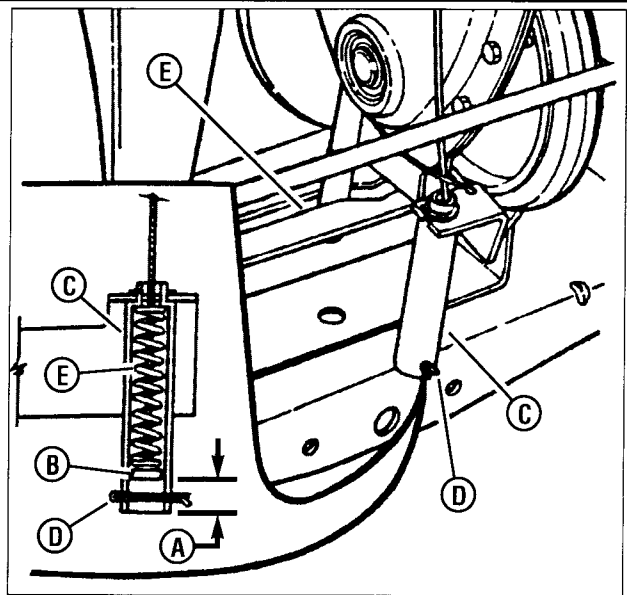

Figure 40: Adjusting the brake cable
5. Measure the distance (A, Figure 40) between the end of the clutch/brake cable (B) and the bottom of the housing (C). The measurement should be 3/4".
NOTE: The cotter pin, brake spring, and clutch yoke (D, E, and F, Figure 40) are noted for reference purposes only.
5. Move the transmission shift lever to the neutral (N) position.
6. Rotate the clutch yoke (F, Figure 40) out with your hand and work the belt between the drive disc and the rubber driven disc.